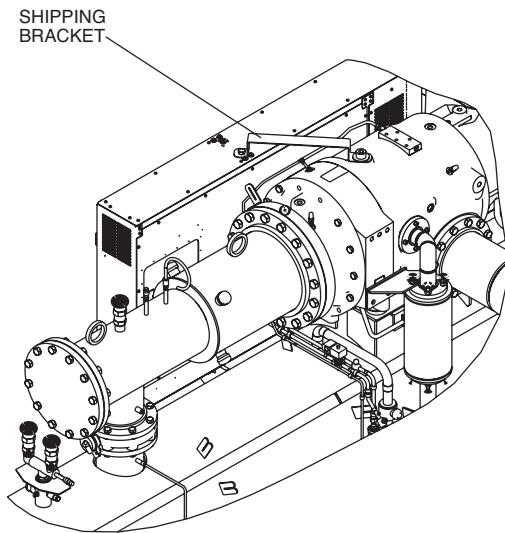

Fig. 39 — Control Center Shipping Brace
- Remove the control center shipping brace (see Fig. 39).